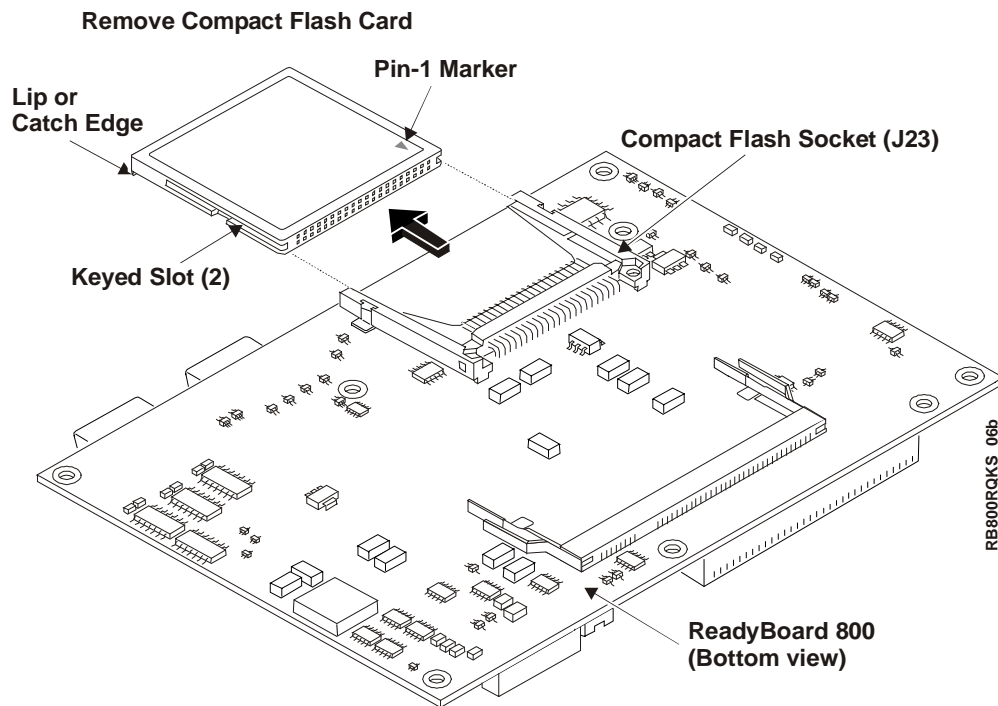

Figure 2-6. Removing the Compact Flash Card
4. Turn the ReadyBoard 800 over to access the bottom of the board and lay it on a flat anti-static surface. See Figure 2-6.